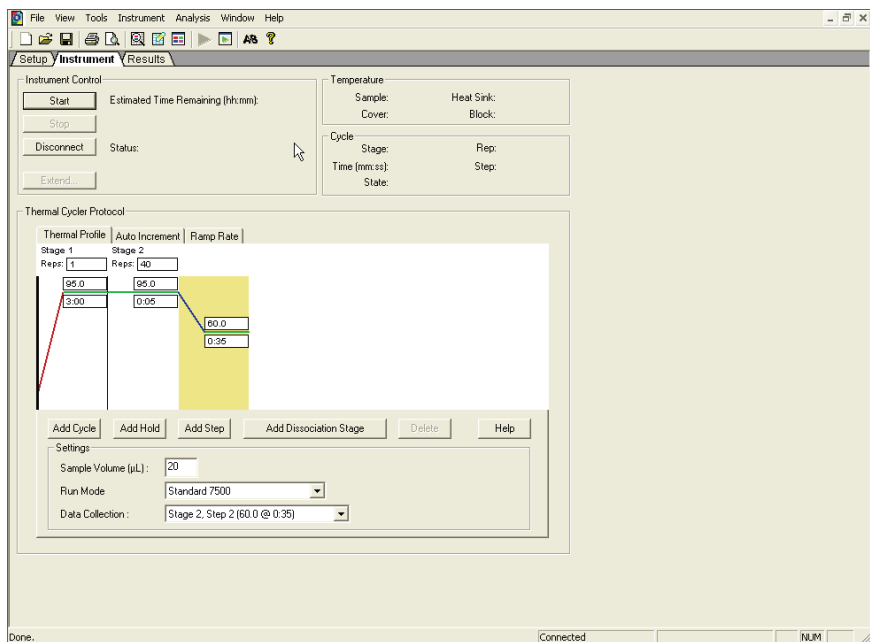

Figure 37. Adjusting the thermal profile (SDS Software Version 1.4).
14. On the thermal profile, delete the first step by pressing **Shift** and clicking within the Stage 1 hold step (50°C for 2 min). After the hold step is selected, press the **Delete** key. Change the holding times to those in Table 13. Be sure to change the Sample volume to **20 µl** and select the correct run mode (**Standard 7500**) (Figure 37, next page).